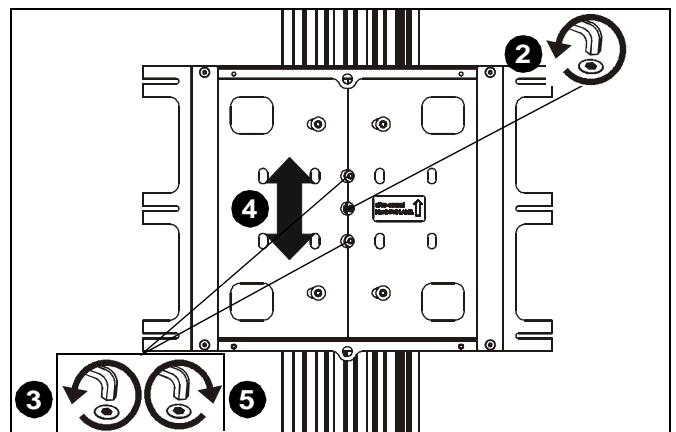

Figure 7
1. Remove side panel and CPU from CPU holder (A).
2. Loosen set screw (F). (See Figure 7)
3. Loosen two button head cap screws (E). (See Figure 7)
5. Tighten two button head cap screws (E). (See Figure 7)